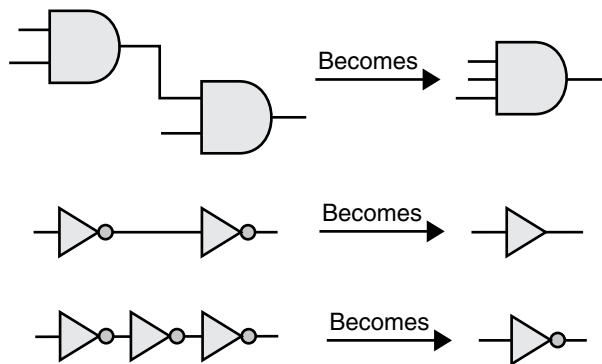

Figure 4-1. Combined Combinatorial Macros
1. It combines two or more combinatorial macros into a single macro. For example, two 2-input AND gates, two inverters, and three inverters are combined into a single 3-input AND gate, a buffer, and an inverter respectively, shown in Figure 4-1.